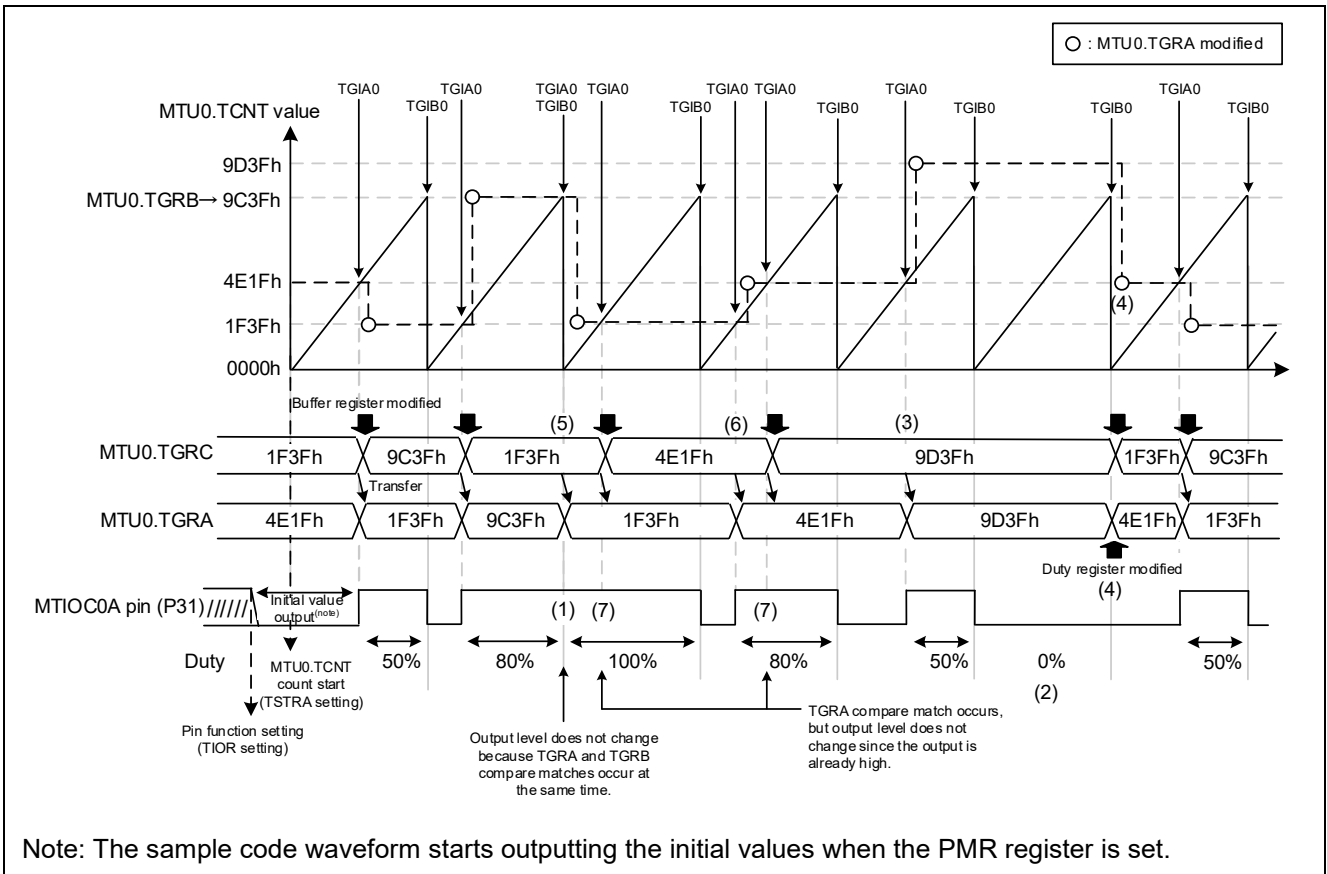

Figure 3.69 Sample Code Operations
- Refer to Figure 3.69 for details on the timing for duty cycle changes
The sample code operations are shown in Figure 3.69. The basic operation is to make changes to the settings of the duty cycle by modifying the buffer register TGRC value at the compare match interrupt (TGIA0) of duty register TGRA and transferring the value of TGRC to duty register TGRA when a TGRA compare match occurs.
Because output does not change when two compare matches occur at the same time, high is retained and 100% duty cycle is output ((1) in Figure 3.69).
When the TGRA value is greater than the TGRB, low is retained and 0% duty cycle is output because the TGRA compare match does not occur ((2) in Figure 3.69).
To continue low for one cycle period and output 0% duty cycle, the TGRC value is not modified by the TGIA0 interrupt in which a value greater than the TGRB is transferred to the TGRA. The timing for modifying the TGRC value when TGIA0 occurs needs to be adjusted ((3) in Figure 3.69).
When 0% duty cycle is output, a TGRA compare match does not occur because the TGRA is greater than the TGRB. As a result, TGIA0 does not occur and there is no timing for modifying the buffer register TGRC value or transferring the value of the TGRC to the TGRA. When switching from duty cycle 0% to 50%, the TGRC and TGRA registers are directly modified when TGIB0 occurs ((4) in Figure 3.69).
When switching from duty cycle 100% to 80%, two compare matches will occur, including the TGRA compare match that occurred at the same time as the TGRB compare match, so the timing for modifying the TGRC value must be adjusted ((5) in Figure 3.69).
This will cause two compare matches to occur in one cycle, so the timing for modifying the TGRC value must be adjusted ((6) in Figure 3.69).
The waveform does not change because the second TGRA compare match occurs during high output ((7) in Figure 3.69).
The following shows an example of PWM waveform output with duty cycles 0% to 100%, as shown in Figure 3.69, without using a buffer.
For details, refer to (6) in Figure 3.69.
For details, refer to (4) in Figure 3.69.